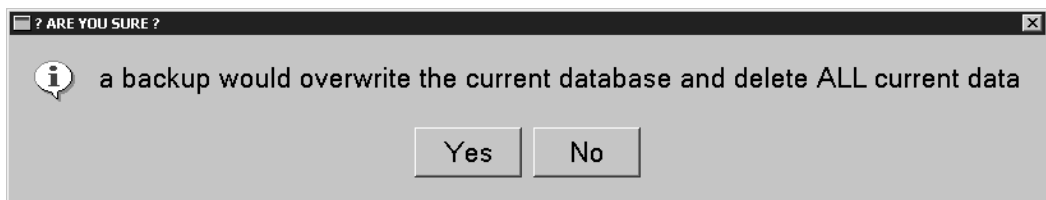

Fig. 22 Warning message: Overwriting All current data
4. Select Restore and accept the message (Fig. 22) by clicking **Yes**.
16. Select Restore and accept the message (Fig. 22) by clicking Yes.